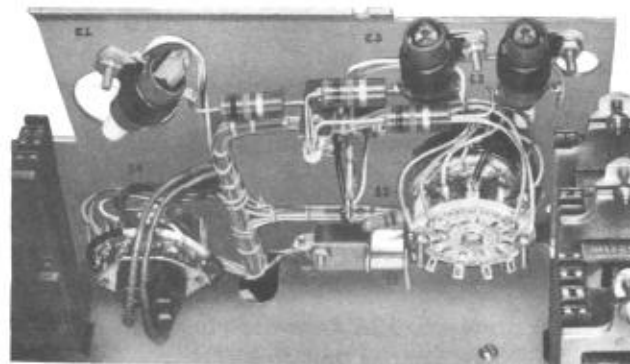

Fig. 9 — 2A Telephone Answering Set — Back of Front Panel Showing Lamps, OFF-ON and Function Switches
3.02 The lamps used for the ON-OFF (E1), DICTATE (E2), and READY (E3) lights in early type sets are removed by grasping the base of the lamp and pulling upward out of the lamp socket (see Fig. 9). The 1847 lamps used for
the ON-OFF (E1, when provided), DICTATE (E2), and READY (E3) lights in standard sets are removed by pressing the lamp into the socket, turning counterclockwise until free, and withdrawing. To place a lamp, press the lamp into the socket; turn clockwise until secure. It may be necessary to loosen the clamp in order to remove the lamp. After placing a new lamp, tighten the clamp securely. (See Fig. 9.)